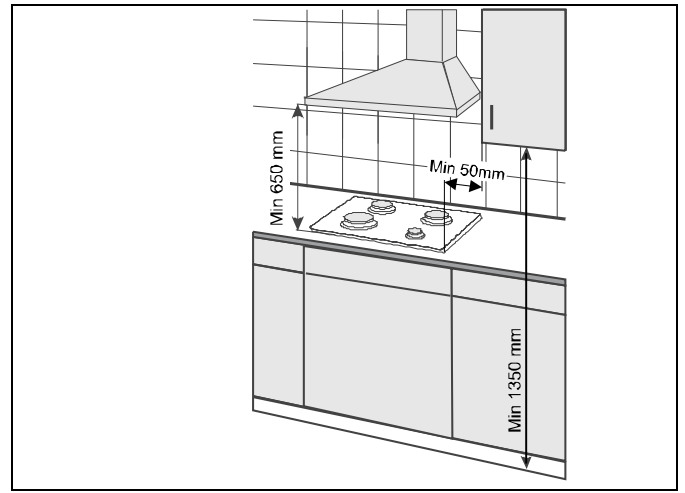

Fig.3
4. There should be an open space above the hob to allow kitchen odours to disperse. Installation of a cooker hood is recommended to either absorb or extract the odours. The distance between the hob and the hood should not be shorter than 650 mm (fig.3).
5. Do not fit kitchen cabinets directly over the hob. The distance between the hob's side edges and the side edges of hanging cabinets should not be shorter than 50 mm (fig.3)